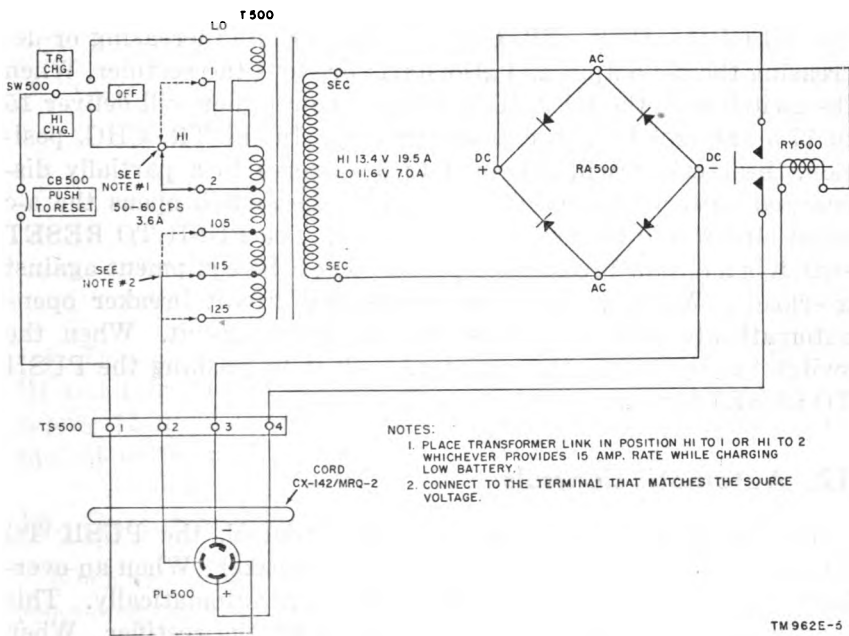

Figure 7. Rectifier RA-63-E, schematic diagram.
14. Preliminary Starting Procedure (fig. 7)
(fig. 7)
rectified to a voltage from 11 to 13 volts dc. This rectified voltage from rectifier bridge RA500 then is applied to Cord CX-142/MRQ-2 through the contacts of relay RY500 and terminals No. 3 and 4 of terminal board TS500. Relay RY500 is provided to break the circuit in the positive d-c lead to the battery being charged when switch SW500 is in the OFF position or when an interruption of a-c current occurs (fig. 7).